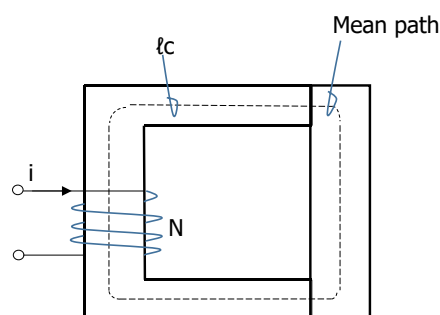

Figure Q5
3. With reference to Figure Q5, determine the V_{rms} induced in the coil if a 50 Hz ac current of $0.3 \sin(\omega t)$ A is flowing through the coil. Inductance L is given as 0.24 H..